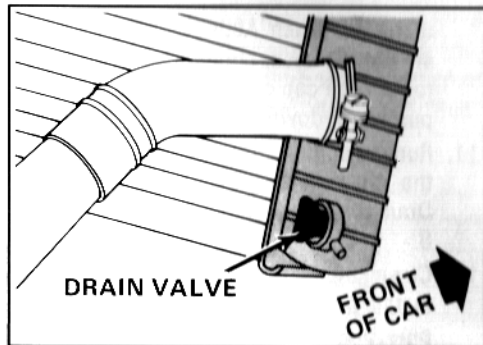
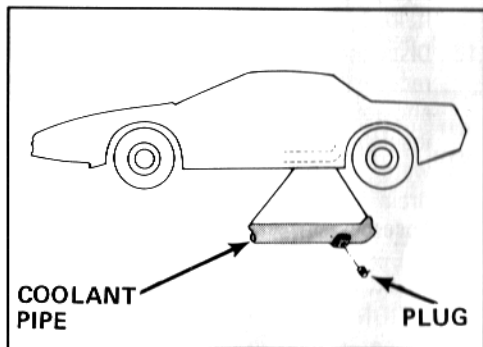

Figure 3 - Lower RH corner of radiator
Figure 4 - One coolant pipe drain plug is on each side of the car
6. Stop the engine. Open the radiator drain valve to drain the coolant. See Figure 3. Drainage may be speeded by removing the drain plugs in the engine block and in the left and right coolant pipes. The coolant pipes run underneath the car. The coolant pipe plugs are located at the rear of each pipe just ahead of the rear tires. See Figure 4. The engine block drain plugs are located near the base of the block, just above the oil pan.